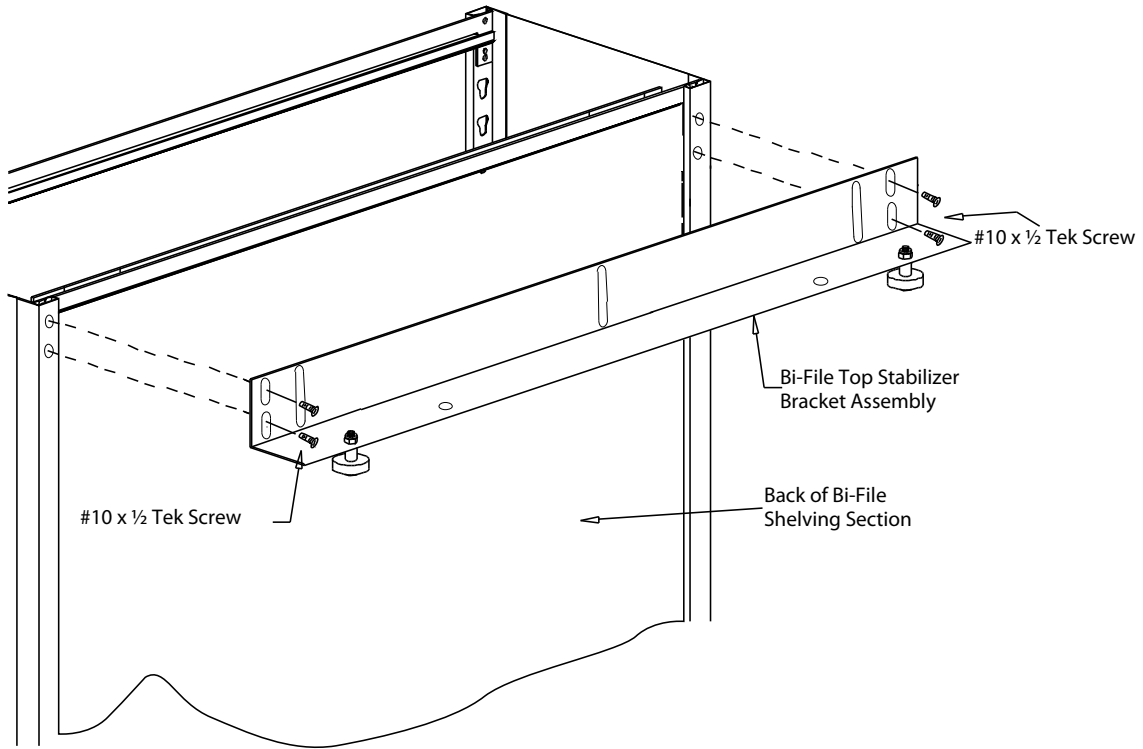

FIGURE 6
STEP 1 Fasten the Bi-File Top Stabilizer Bracket assembly to the top back of each Bi-File Shelving sections by using four (4) #10 x 1/2 Tek screws. See Figure 6 .